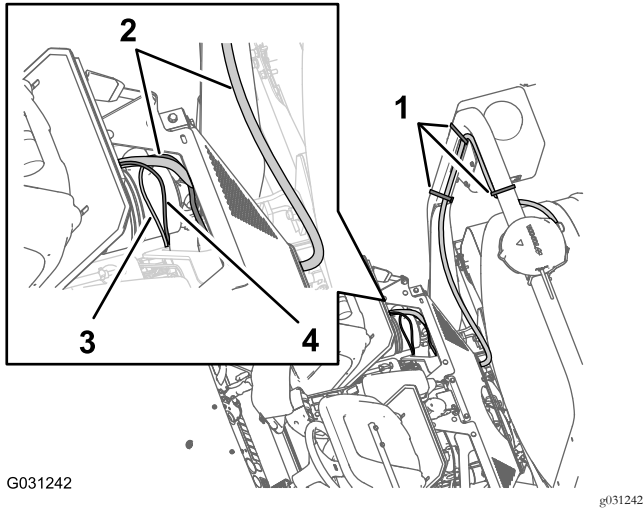

Figure 160
1. Route the 100 cm (39-3/8 inches) branch of the electrical harness (Figure 160) with the 1-pin connector, down to the area where the front and rear wire harness for the machine connect; refer to Figure 120 in Connecting the Front and Rear Wire Harnesses (page 51).
2. Route the 100 cm (39-3/8 inches) branch of the data harness (Figure 160) with the 4-pin connector for the CAN 2/sprayer controller, down to the area where the front and rear wire harness for the machine connect; refer to Figure 120 in Connecting the Front and Rear Wire Harnesses (page 51).